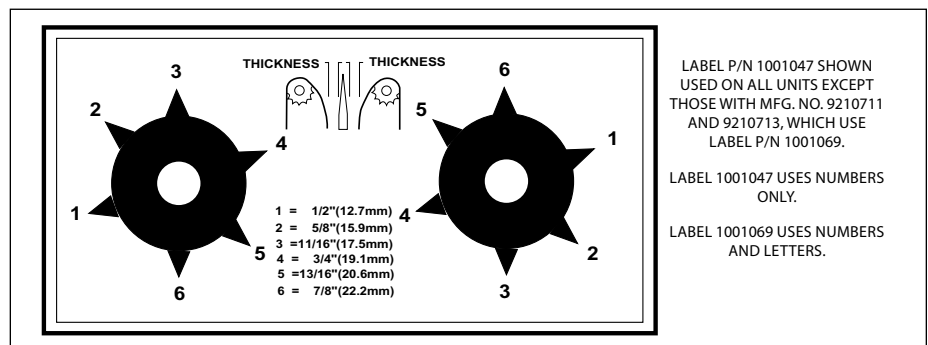

Figure 7. Bun Thickness Compression Knobs
1. Set the Bun Thickness Compression Knobs (Figure 7) to the desired settings.
**NOTE:** The Bun Thickness Compression Knobs (Figure 7) must be set to "6 & 6" or "6 & F" prior to measuring or removing or reinstalling the Conveyor Belt Chains.